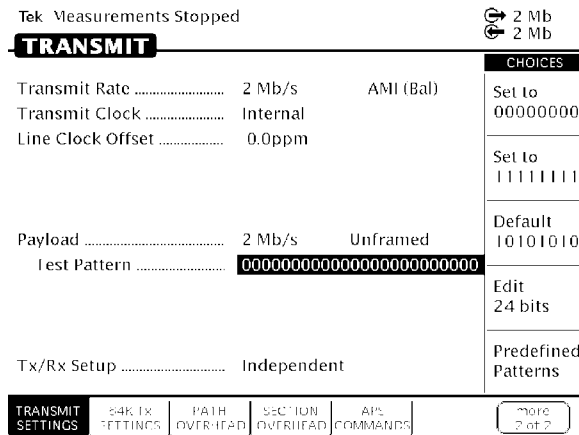

Figure 3 48: Editing the User Word
2. Select **EDIT BYTE/Edit XX bits** to specify a value different from the preset choices (see Figure 3 48).